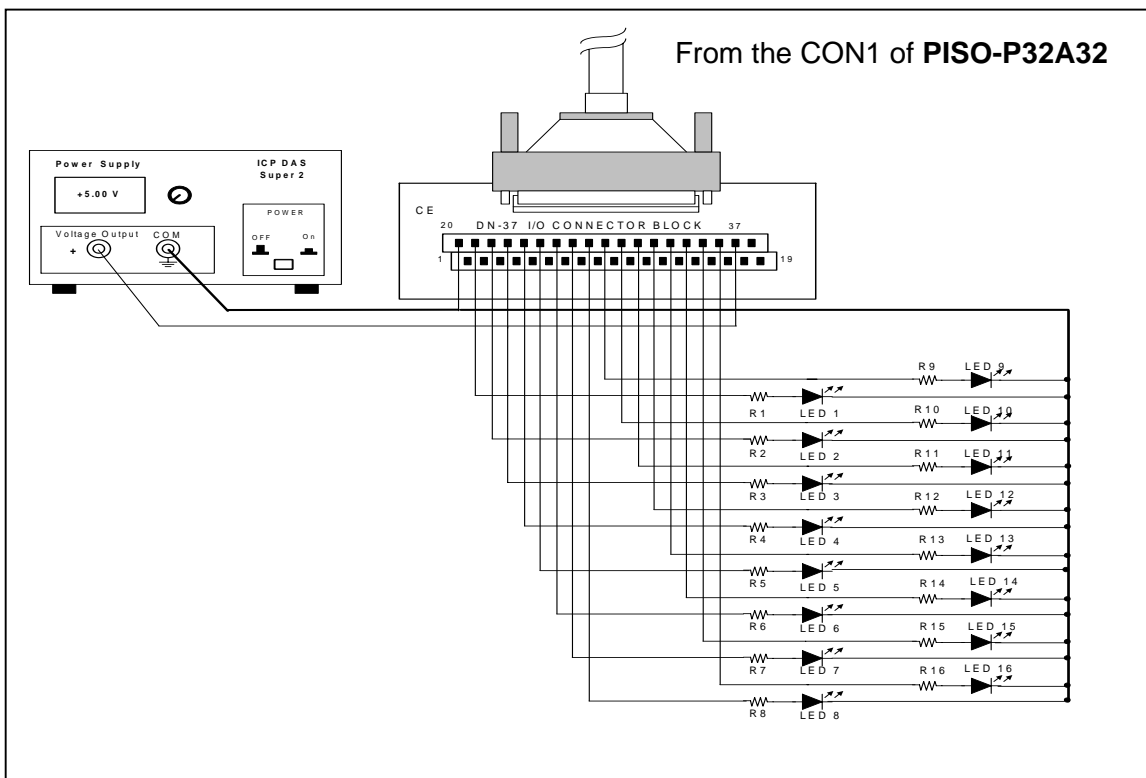

Figure 4-1-3. The circuit diagram of external device 1 for the digital outputs of PISO-P32A32
- Figure 4-1-3(PISO-P32A32) shows the circuit diagram of external device 1